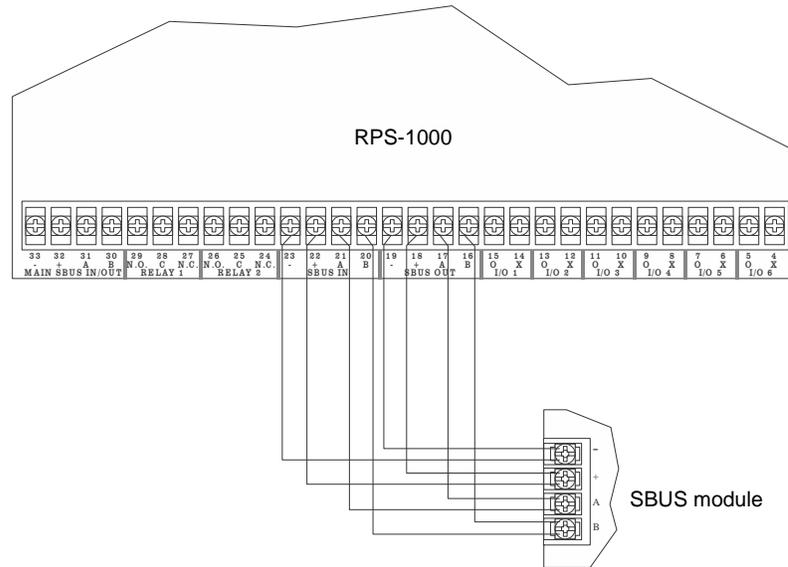
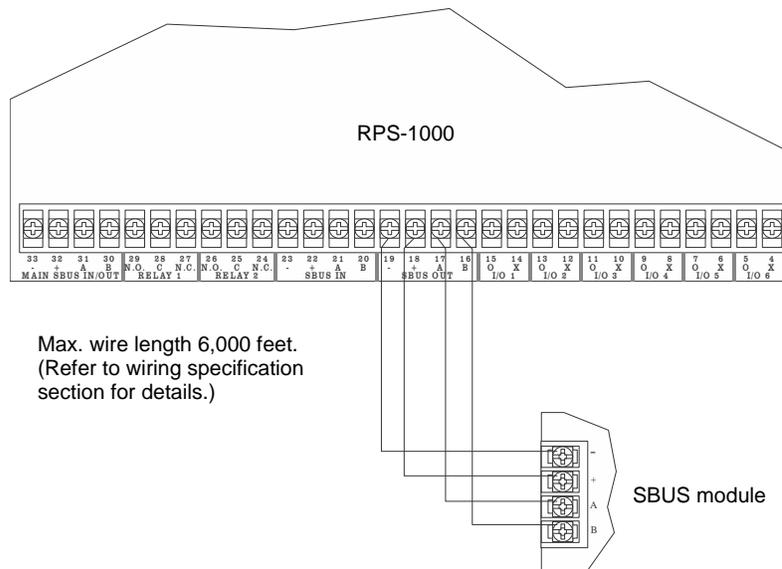

Figure 3.8 SBUS Class A Connection to RPS-1000
Figure 3.9 SBUS Class B Wiring to RPS-1000
1. Connect SBUS modules to the RPS-1000 as shown in Figure 3.8 or Figure 3.9.